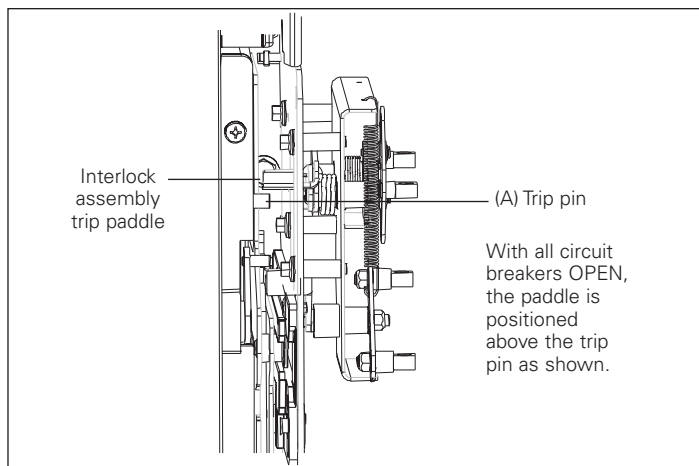
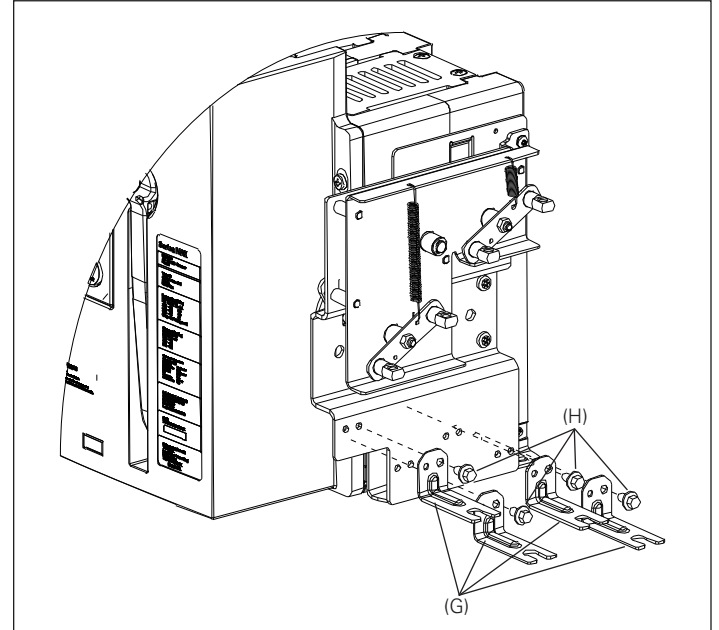

Figure 8. Details for Step 5
Figure 9. Details for Step 6
Fasten the fixed mounting bracket (K) to the right side fixed breaker mounting foot using three M6 x 10 mm thread-forming screws (H) as shown in **Figure 9**. Torque to 7,3–9,6 N·m (65–85 in-lb). Ensure that once attached to the breaker, the trip paddle is above the trip pin on the trip bar as shown in **Figure 8**.
Fasten four cable brackets (G) to the right fixed mounting bracket (K) just below the interlock assembly (mounted in **Steps 5, 6, and 7**) using four M6 x 10 mm thread-forming screws (H) as shown in **Figure 9**. Torque to 7,3–9,6 N·m (65–85 in-lb).